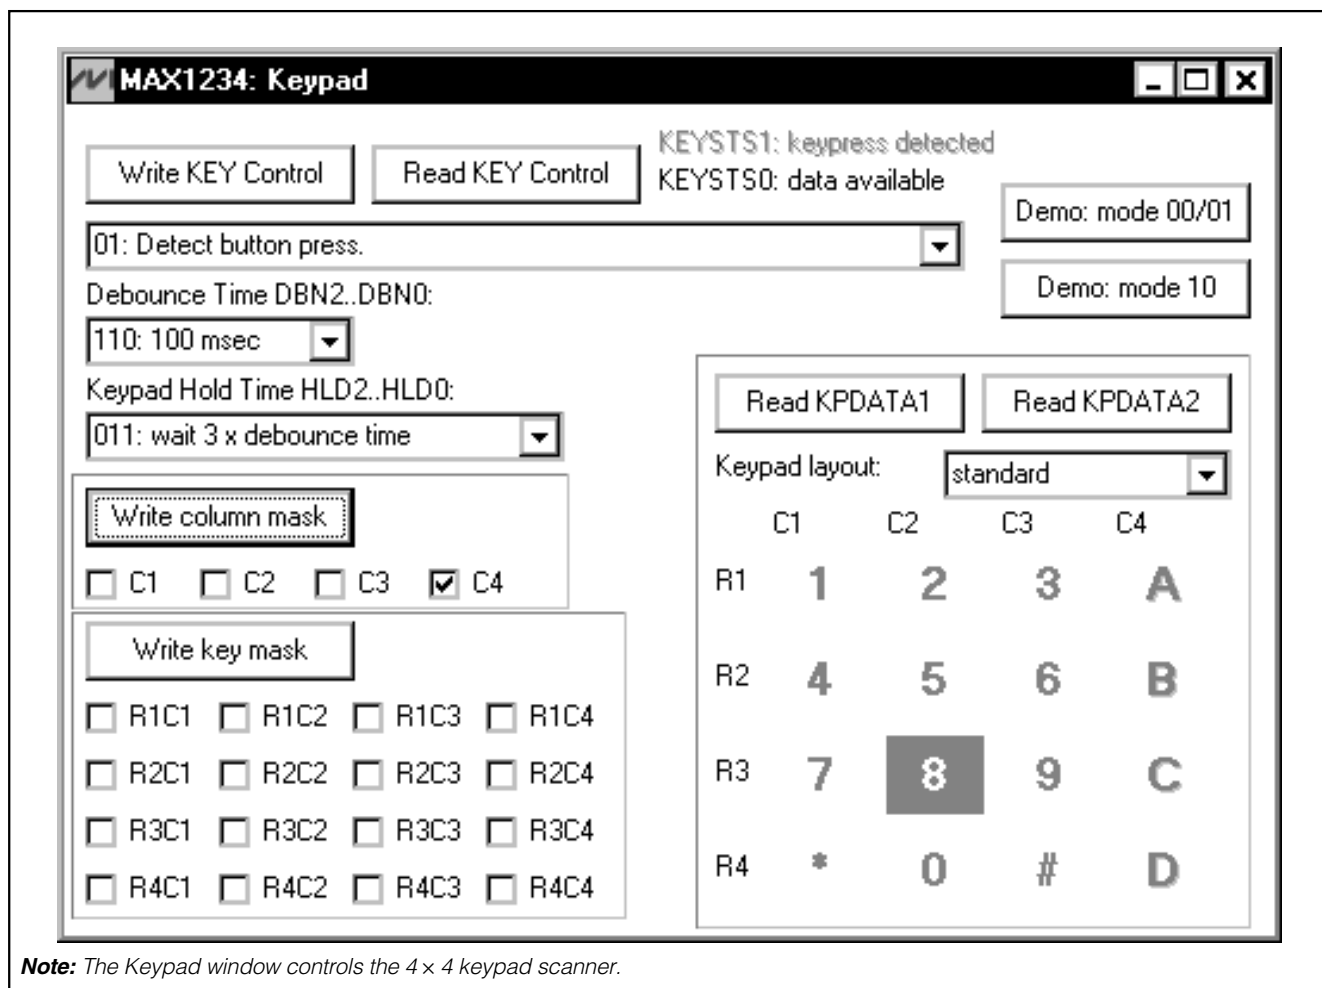

Figure 5. Keypad Window
- 11) Click **Demo Keypad**. The software tracks key presses (see Figure 5).
The Keypad window controls the 4 x 4 keypad scanner. Use the drop-down combo boxes to set up the keypad control register, then click **Write KEY Control**. Refer to the MAX1234 data sheet for suggested usage details (see Figure 5).